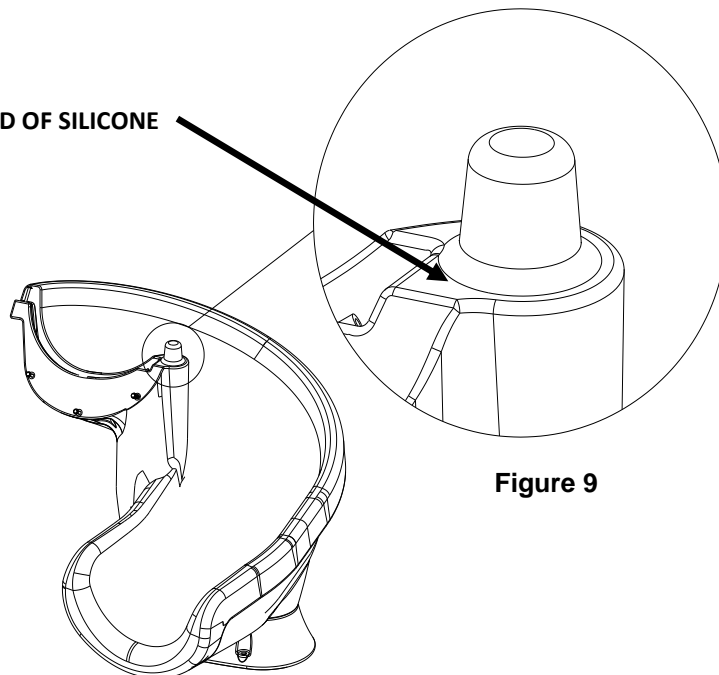

Figure 9
- 10) Apply a .25 inch (6 mm) bead of Silicone sealant (Silicone II or similar) around the base of the cone of the slide's center column. See Figure 9.